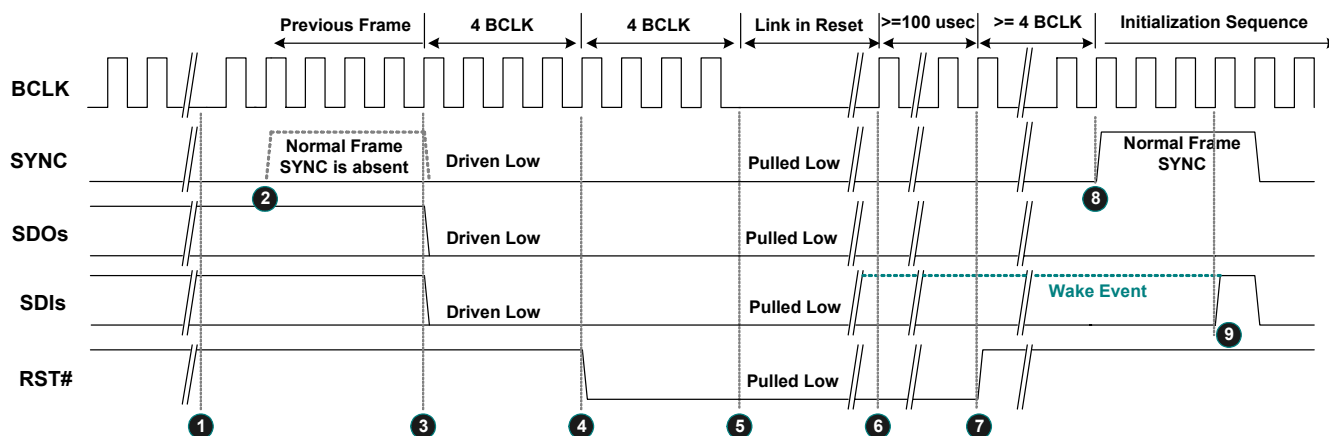

Figure 14. Link Reset Timing
3. Software initiates power management sequences. Figure 14, page 21, shows the 'Link Reset' timing including the 'Enter' sequence (❶~❺) and 'Exit' sequence (❻~❾)